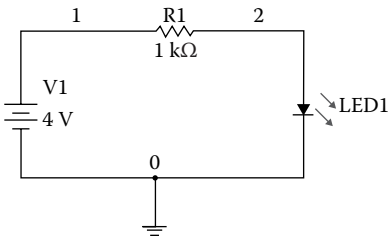

FIGURE 1.13
For the resistor–LED circuit shown in Figure 1.13, (1) determine the voltage drop across the LED, and (2) calculate the current flowing through the LED. (Use a red LED.)
Use a breadboard to build the circuit shown in Figure 1.13. Connect AWG1 (yellow wire) to node 1 of the circuit. Also, connect scope channel 1 positive (orange wire) to node 1. Furthermore, connect the scope channel 1 negative (orange-white wire) to node 2. The scope channel 1 measures the voltage across the resistor. In addition, connect the ground (black wire) to node 0 of the circuit. Moreover, connect scope channel 2